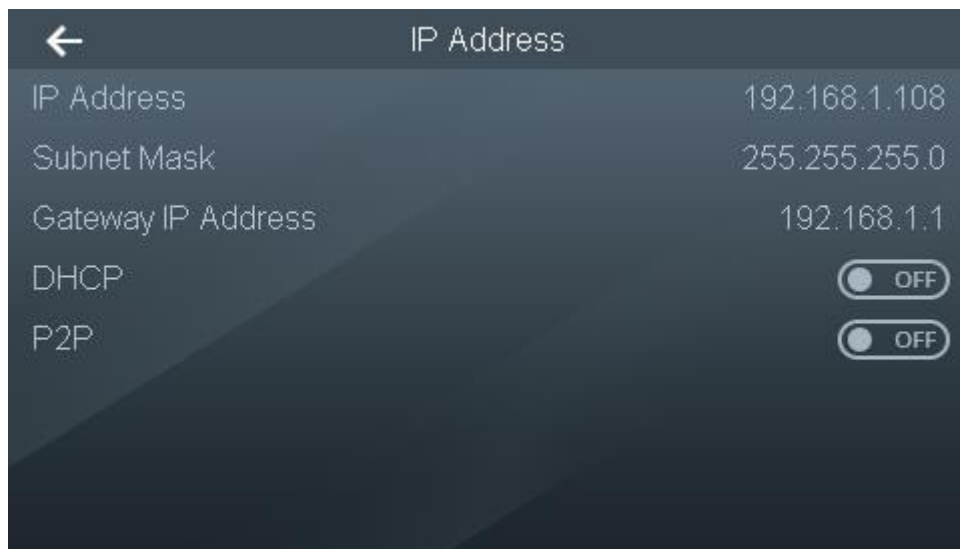

Figure 3-12
- 1) Select “IP Address”, and the screen displays Figure 3-12.